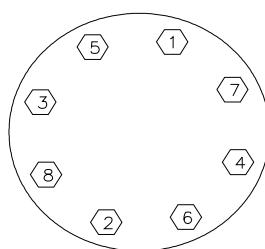

Fig 3.5: Initial Centering & Flanging of Valve
5.3 Center valve, span body with bolts, but do not tighten. Slowly open disc to ensure that it clears adjacent pipe ID and leave at full open position. Tighten bolts in a criss cross pattern refer fig 3.5.
Place the valve between the flanges, center it and then span the valve body with all flange bolts, but do not tighten the bolts. Carefully open the disc to the full open position, making sure the disc does not hit the adjacent pipe I.D. Now systematically remove jack bolts or other flange spreaders, and hand-tighten the flange bolts as shown in fig.3.5 Very slowly close the valve disc to ensure disc edge clearance from adjacent pipe flange I.D. Now open the disc to full open and tighten all flanges bolts as per specification as shown in fig. Finally, repeat a full close to full open rotation of the disc to ensure proper clearance.